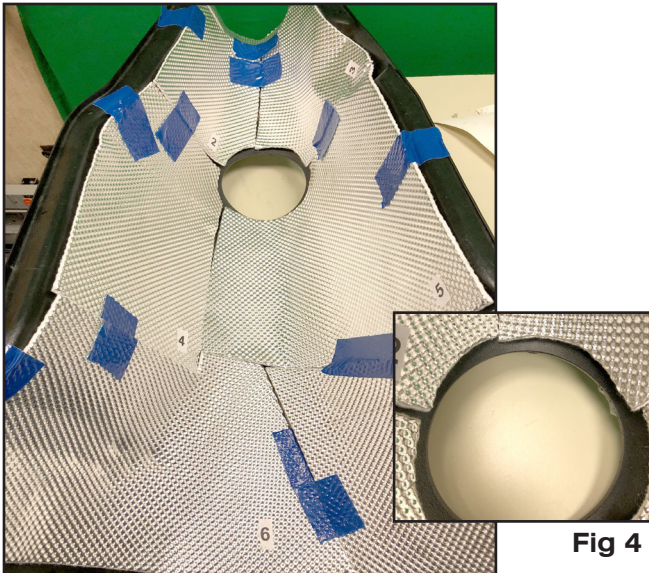

Fig 3
STEP 5. Starting with part seven, tape into place and work your way up until all the shields are taped in place. **Fig 3**